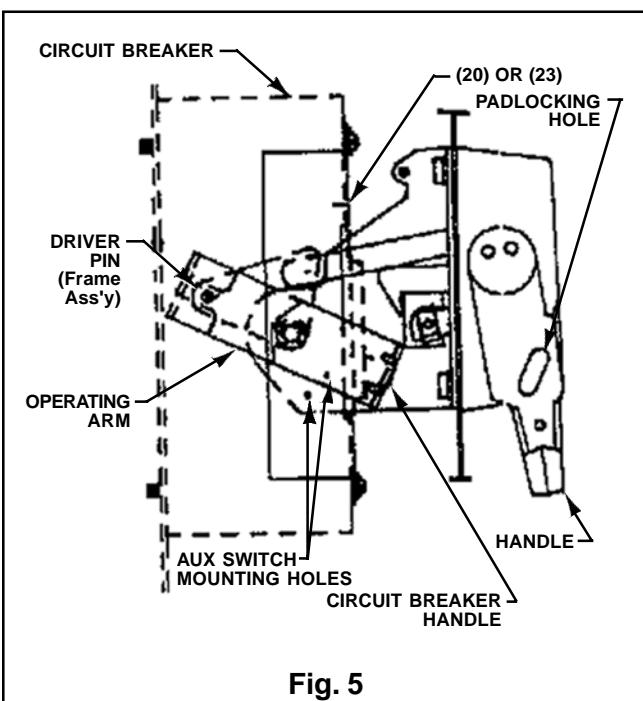

Fig. 5
5. INSTALLING BREAKER AND BREAKER OPERATOR (See figures 5, 6, and 7)
PADLOCKING (See figure 5)